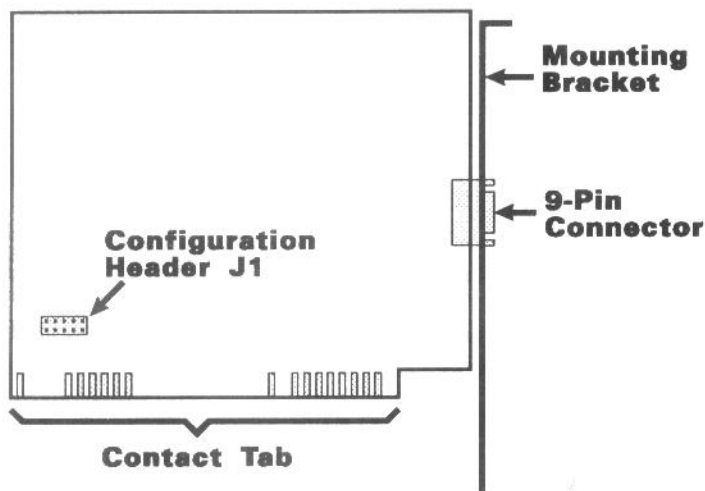
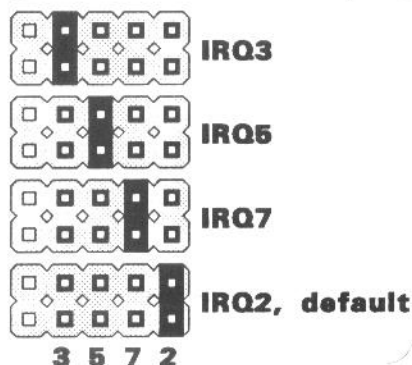

Figure 1. PC MIDI Card circuit board component location
Figure 3. PC MIDI Card Interrupt Selection
Please refer to Figure 1 to familiarize yourself with the PC MIDI Card circuit board.
To change the PC MIDI Card's I/O address, first locate configuration header J1 on the circuit board as shown in Figure 1. The leftmost pair of pins on J1, at position "P", are used for setting the I/O address. You will notice that a jumper is installed on the pins at "P"; this jumper selects the default I/O address, 330. You can remove the jumper at position "P" to change the PC MIDI Card's I/O address to 300. The jumper is removed by lifting it up from the pins it connects. If you remove the jumper, keep it in a safe place for possible re-use.
To change the PC MIDI Card's interrupt, first locate configuration header J1 as shown in Figure 1. Figure 3 shows how a jumper is placed on one of positions 3, 5, 7 or 2 of header J1 to select interrupt IRQ3, IRQ5, IRQ7, or IRQ2, respectively. Note that a jumper was installed at the factory on position 2 on J1; this
5. Referring to Figure 1, locate the PC MIDI Card's contact tab. Grasp the PC MIDI Card by its top edge and insert it into the computer so the contact tab goes into the expansion slot connector, with the card's metal bracket replacing the expansion slot cover that you removed in step 4.
Refer again to Figure 1 to familiarize yourself with the PC MIDI Card circuit board. Locate the board's 9-pin D-sub connector, which now extends through the rear chassis panel. Attach the included adapter cable to this 9-pin connector, securing with the captive screws on the adapter cable's mating connector. Then, using standard MIDI cables, connect the other ends of this adapter cable to your MIDI equipment, making sure that MIDI IN's are connected to MIDI OUT's.